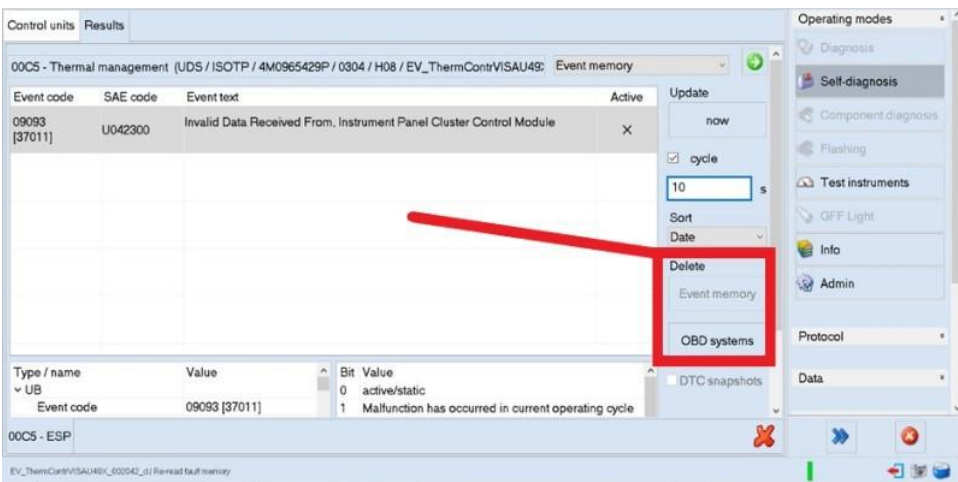

Figure 5
- Referring to Figure 5 - Delete the event by using the delete commands (CIRCLE)